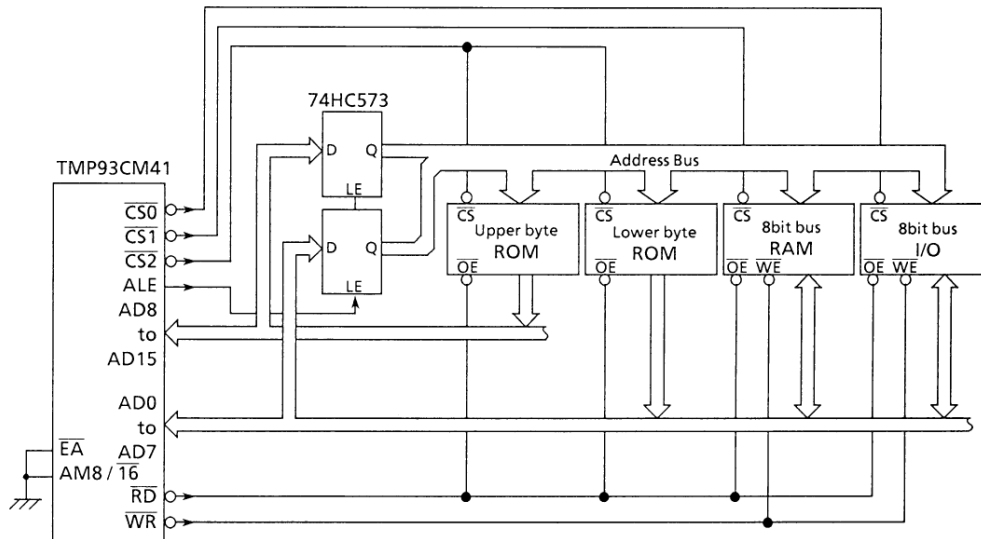

Figure 3.6 (1). Example of External Memory Connection (ROM = 16 bits, RAM and I/O = 8 bits)
(1) Example of Usage - 1
Figure 3.6 (1) is an example in which an external memory is connected to the TMP93CM41. In this example, a ROM is connected using 16-bit Bus; a RAM is connected using 8-bit Bus.